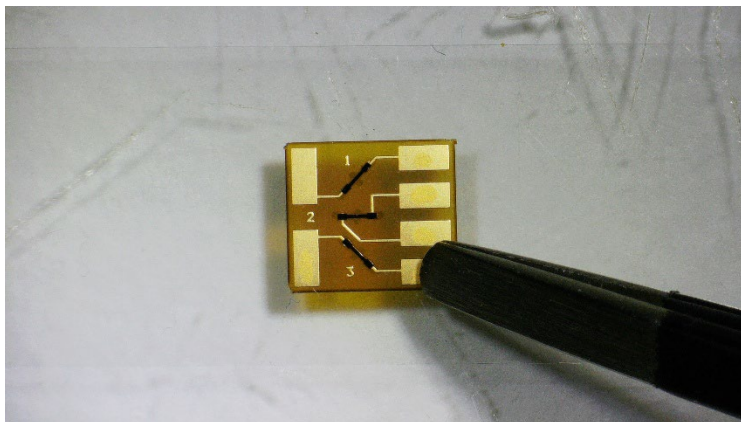

Figure B1 – Sealing rosette terminal pads.
- B.7 Use the blunt end of the tweezers to gently smooth the tape over the terminal pads of the rosette. The tape must seal the terminal pads to prevent the M-Bond 200 from flowing onto their surfaces. If M-Bond 200 is present on the terminal pads, it will prevent the solder from sticking to the terminal pad. Do not smooth the tape over the strain gages. See Figure B1.